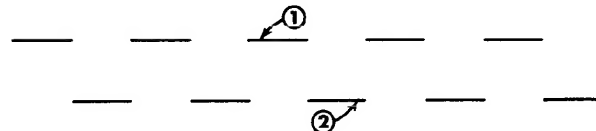
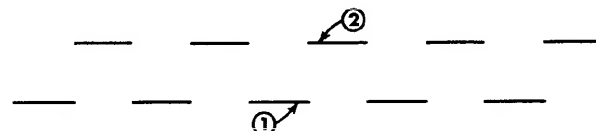
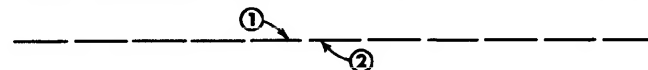

Fig. 2. POSITIONING CONTROL AT EXTREME COUNTER CLOCKWISE POS
Fig. 3. POSITIONING CONTROL AT EXTREME CLOCKWISE POSITION
Fig. 4. POSITIONING CONTROL AT SOME INTERMEDIATE POSITION
- f) Adjust the sweep vernier (fine frequency) control until a pattern of 6-9 cycles is locked in place on the scope screen, using as little sync voltage as possible. The pattern should appear as in Fig. 2.
4) The POSITIONING control permits adjustment of the separation between the "1" and "2" traces. With it you may superimpose one trace upon the other or reverse the vertical order of appearance of the traces on the scope screen. The extreme counter-clockwise position of this control provides maximum separation of the traces for one vertical order of appearance ("1" above "2") as shown in Fig. 2. The extreme clockwise rotation yields maximum separation for the reverse vertical order of appearance ("2" above "1") as shown in Fig. 3. At some setting of the POSITIONING control between the extremes of rotation, one trace will be superimposed upon the other as shown in Fig. 4. Turn the POSITIONING control slowly to the maximum clockwise position and back to the maximum counter-clockwise position observing the action described above.